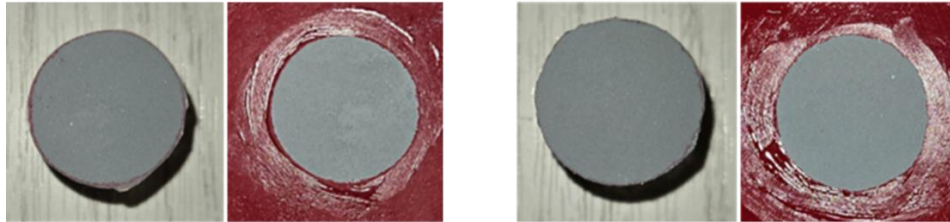

Figure 2. Images of post-test failure surfaces from Coating 1 (left) and Coating 2 (right)
To demonstrate the effectiveness of pull-off strength testing to identify the weakest link in a coating system, two samples were prepared for analysis. Coating 1 consists of an automotive primer (layer B) and paint (layer C) layered onto a steel substrate (A). Coating 2 has the same primer and paint layers, but with an additional clear coat layer (layer D) at the top surface. Figure 2 shows examples of dolly and coating surfaces after testing for each coating system. Table 1 provides the pull-off strength results from each test, and failure locations are indicated by a percentage for each layer or interface that failed; results that sum to < 100% indicate some of the failure occurred at the epoxy layer. Despite the addition of this harder, more durable clear coat layer, the pull-off strength for Coating 2 is only slightly higher than for Coating 1, and the failure occurs within the primer layer for both samples and for all tests. The low standard deviation, consistency in failure location, and minimal dependence on other coating layers make pull-off strength testing a valuable tool for coating development and coating quality control.